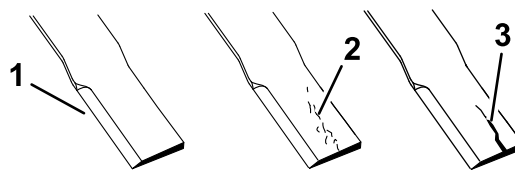

Figure 8
1. Inspect the cutting edges (Figure 8).
4. If you notice any crack or wear, immediately install a new blade (Figure 8).